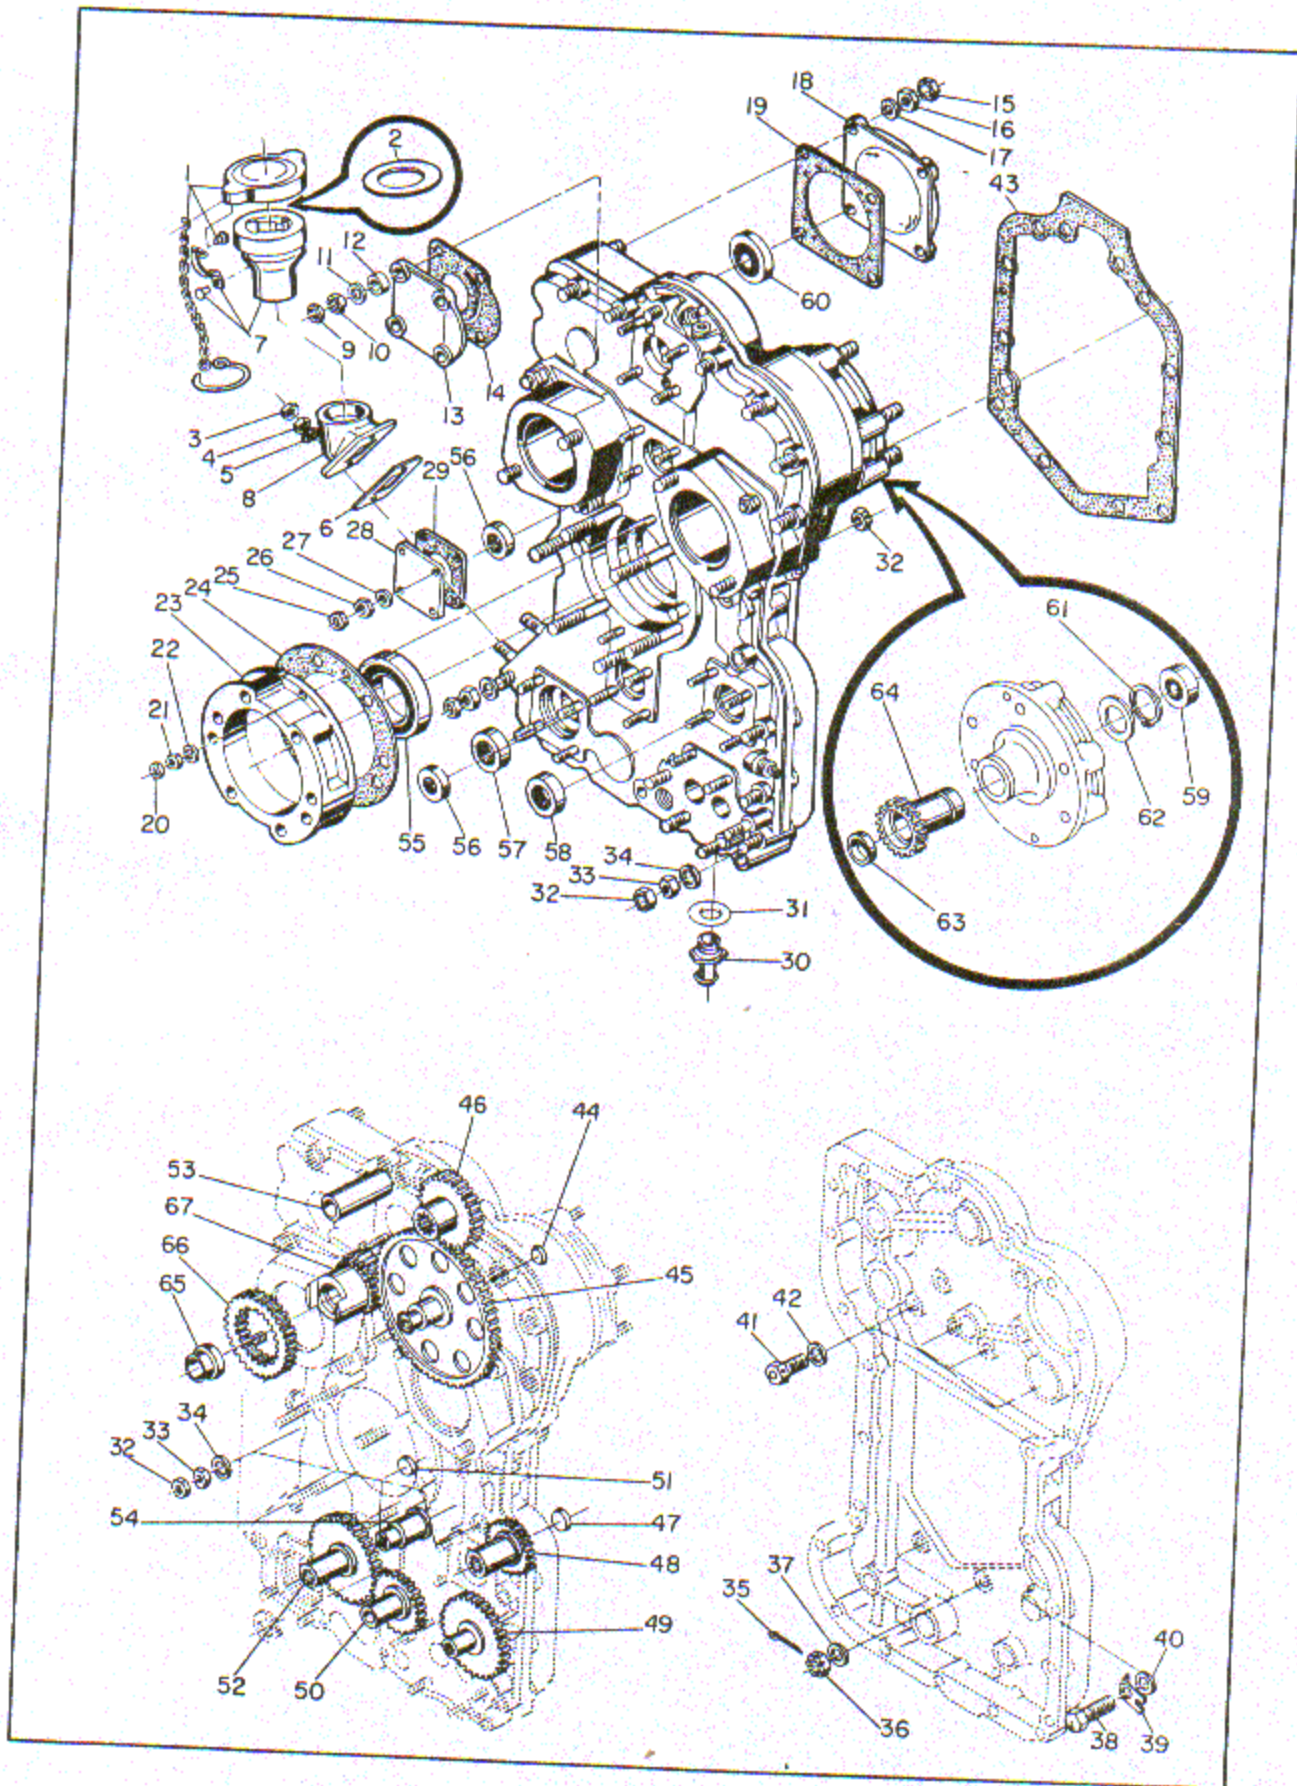

Figure 4-7. Accessory Case, Gears and Covers
4-21. ACCESSORY CASE REAR HALF. (See figure 4-7.) Return engine to its upright position. Remove attaching parts (32, 33, 34) from studs projecting rearward around parting flange of front half and from two studs at the sides projecting forward from rear half. Make sure all gears remain in the front half. (See figure 4-8.) Oil (tube) in upper hydraulic pump gear bushing above left magneto drive remains in rear half.
4-25. ACCESSORY CASE FRONT HALF. (See figure 4-7.) Bend down tabs on washers (39) before removing bolts (38). When sliding off case front half, keep it parallel to crankcase to prevent it binding on long studs.
4-31. ACCESSORY CASE HALVES. (See figure 4-7.) Detach and remove generator drive adapter assembly. Mark each magneto adapter to identify its original position; then detach and remove them from the rear half. Remove remaining parts in ascending order of index numbers.
4-32. GENERATOR ADAPTER ASSEMBLY. (See figure 4-7.) Use a suitable puller to remove seal (59). With Truarc pliers, expand gear retaining ring (61) only enough to clear the shaft, and withdraw ring. Pull out gear (64). Do not remove its oil plug (63).
Legend for Figure 4-7